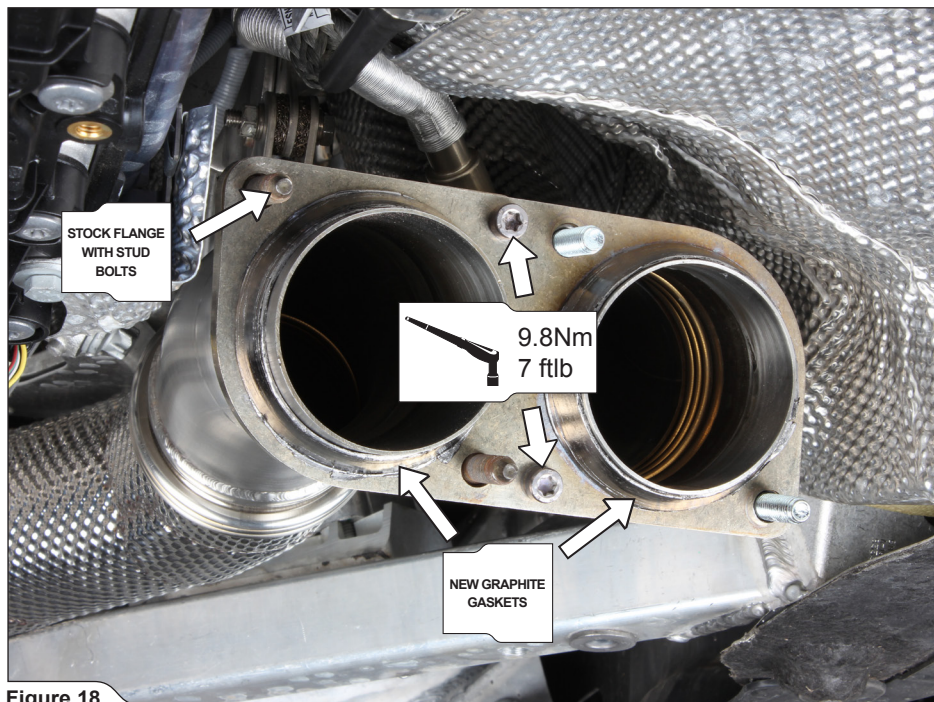

Figure 18
3. Install the stock pipe connecting plate, using stock bolts and stock flange with stud bolts; carefully slide the graphite gaskets onto the downpipes' outlets (**Figure 18**).